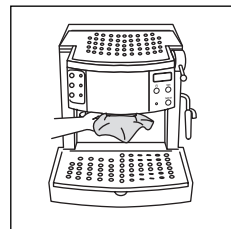

fig. 18
**IMPORTANT:** Should the coffee holder for pods be used after one for ground coffee, it's necessary to clear the ground coffee remained in the espresso boiler outlet (fig. 18). This cleaning operation is necessary in order to avoid water leakages.
- Clean the boiler with a damp cloth (fig. 18);